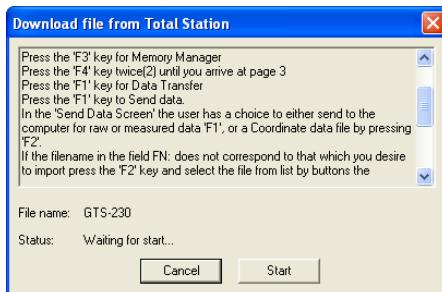

Figure 3-43. Total Station Instructions – Preparing for Import
7. Follow the all the steps listed in the ***Download File From Total Station*** dialog box to prepare the Total Station (Figure 3-43).